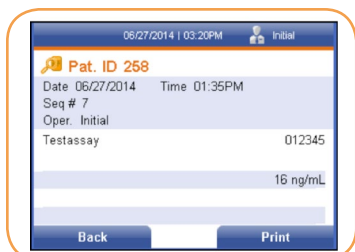

FIGURE 73
- Using the [↓] key, select the desired result line. Use the right soft key on the keypad to select Show Details. The date and time the result was obtained is displayed, along with the sequence number, the operator, test number, test lot, control result and patient result (Figure 73).